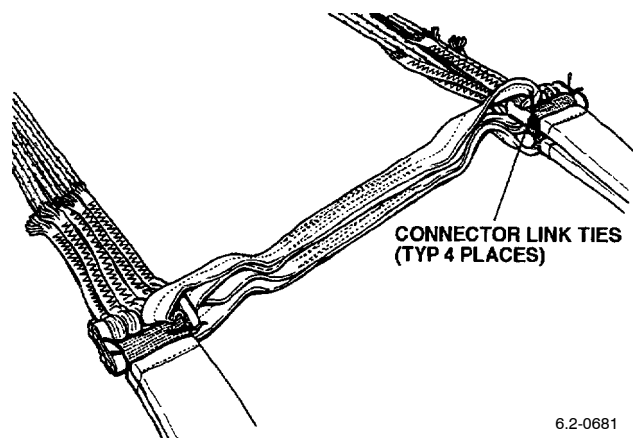

Figure 31. Suspension Line Link Tackings
a. Remove tension hooks, and tie connector link ties with one turn of size FF thread, single and waxed; tie off (Figure 31).